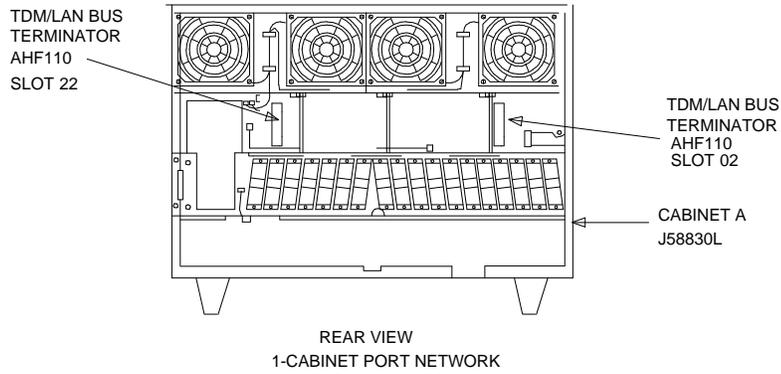

Figure 2-9. Locations of TDM/LAN Bus Terminators for Single-Cabinet PPN
1. If the PPN has only one single-carrier cabinet, verify that the two AHF110 TDM/LAN bus terminators are located per Figure 2-9.